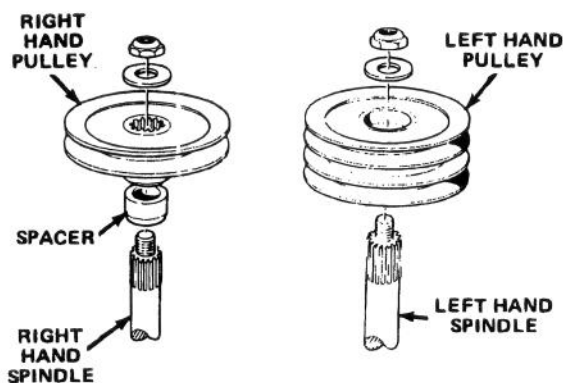

Figure 34
Note: All three spindle housing assemblies are different from one another. A spacer is located beneath the right hand pulley (Fig. 34, 35).
9. Lubricate top oil seal and install in top of spindle housing. Install the spacer on the shaft if right hand spindle assembly is being repaired (Fig. 34). Push pulley onto splines of spindle shaft, and retain parts together with large flat washer and nut. Tighten nut to 140-160 ft-lb (190-217 N-m). Check to be sure spindle rotates freely.